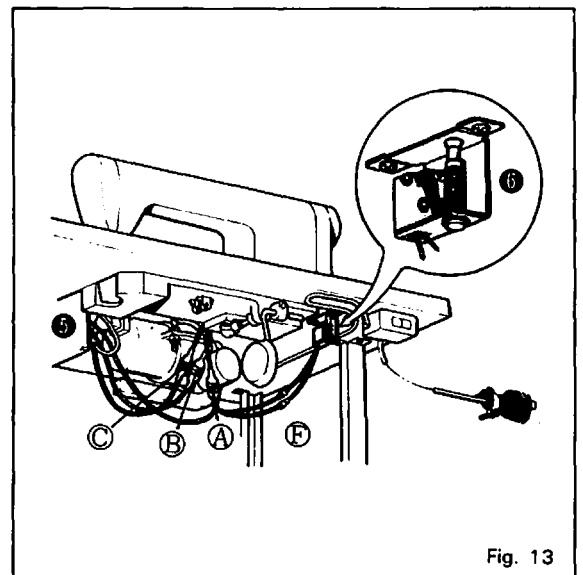

Fig. 13
- III) Pass the plugs through the hole in the table and connect them to the plug sockets leading from control box ⑤, safety device ⑥, valve box ⑦ and treadle ⑧. (Fig. 13, Fig. 14)
- (A) plug for Types 100, 200, 400, 500
- (B) plug for Types 100, 200, 400, 500
- (C) plug for Type 400
- (D) plug for Type 500
- (E) plug for Type 500
- (F) plug for Types 100, 200, 400, 500
Its operation and function is as per Fig. 13.